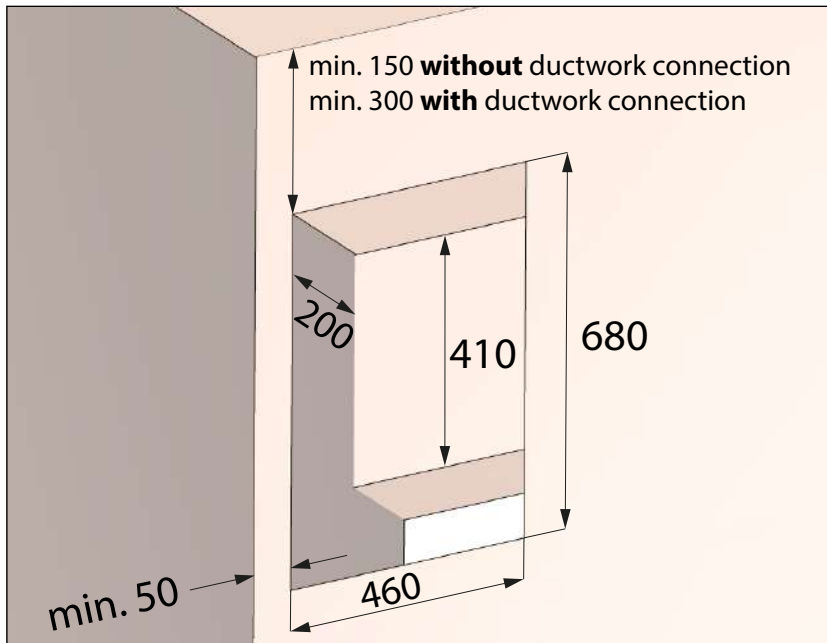

Fig. 8: Wall breakthrough for installation kit **without** filler piece, dimensions in millimetres
- Wall breakthrough with recess (see Fig. 8 on page 18) for installation kit **without** filler piece M-WRG-II M/Fü